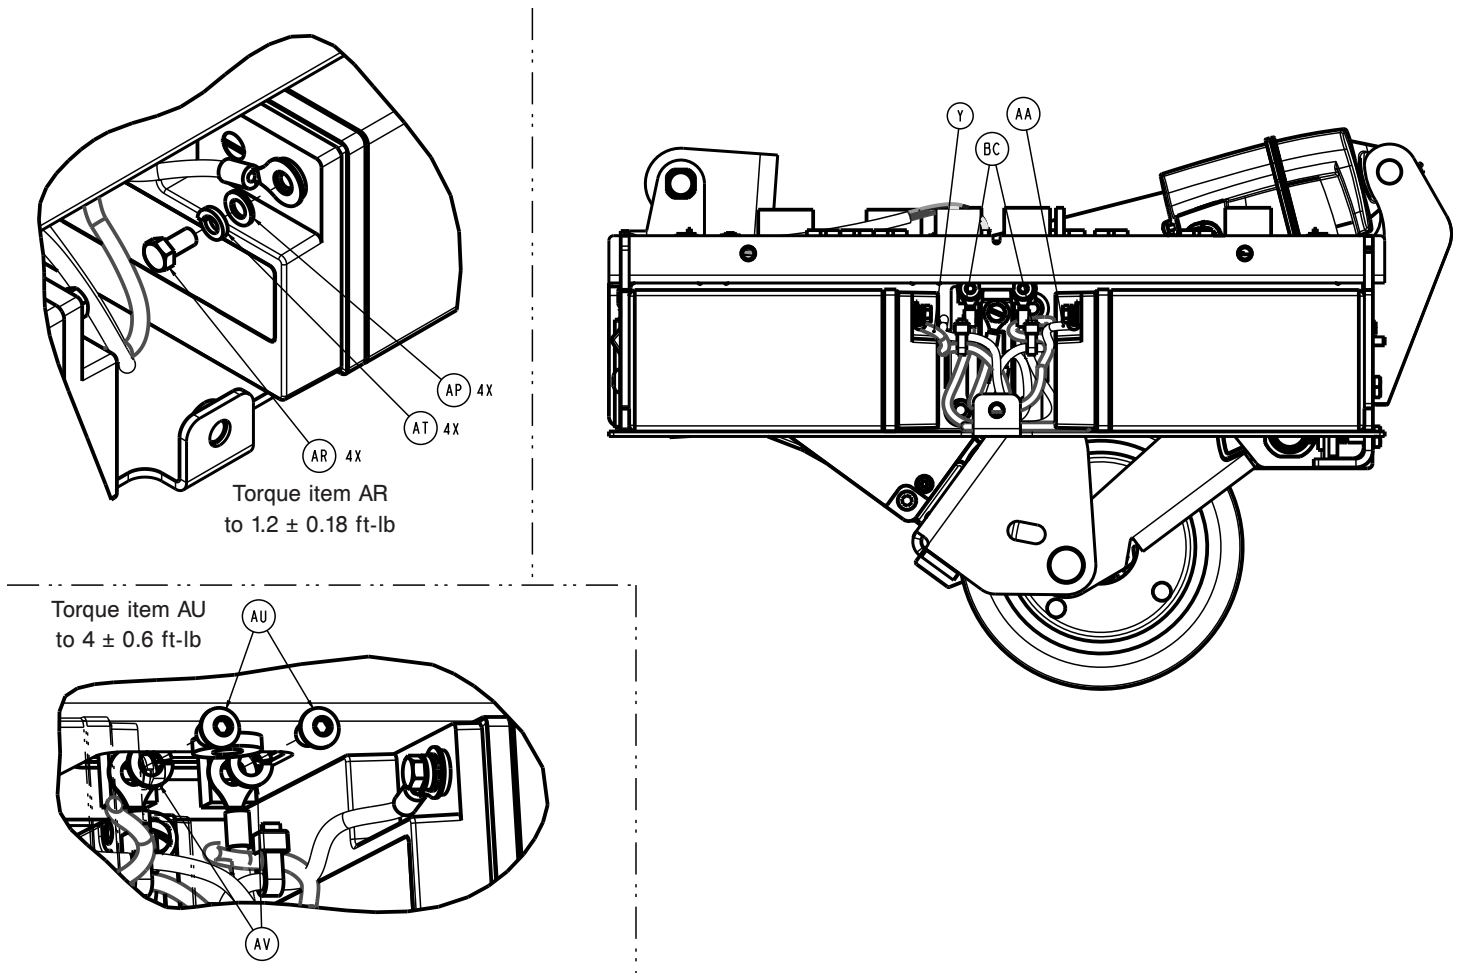

Figure 66 – Removing the batteries
- Using a 5/16" socket and ratchet, remove the bolt (AR), lock washer (AT), and flat washer (AP) that secure the positive wire (red) and the negative wire (black) to the battery (Figure 66). Save the bolt and washers. Repeat for the other battery.
17. Using a 5/32" hex wrench, remove the two screws (AU) and lock washers (AV) from the battery wires to remove the board (Figure 66).